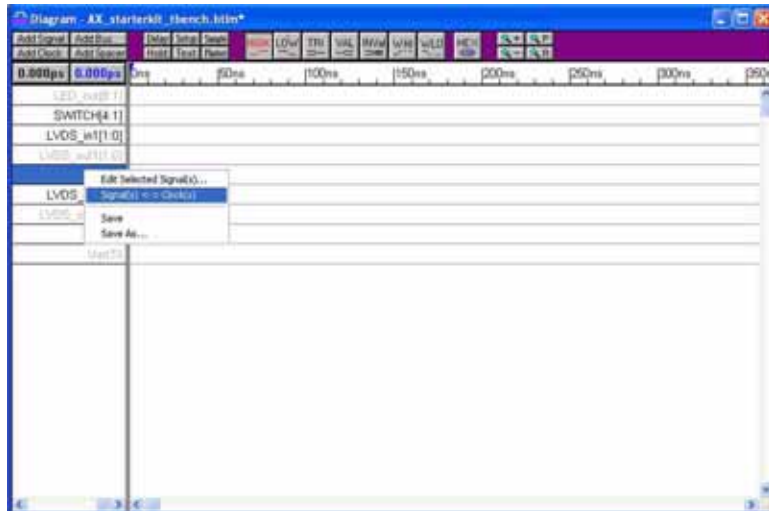

Figure 3-13. Edit Selected Signals
3. Click *Signal(s) <-> Clock(s)* (see Figure 3-13). A clock signal appears.